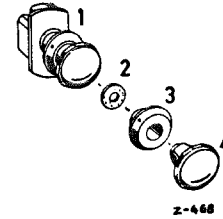

Fig. 82—9/1
4. Installation is the reverse of the removal procedure. Do not forget the felt washer (see Fig. 82—9/1). Tighten up the escutcheon, using Hook Wrench 136 589 02 05.